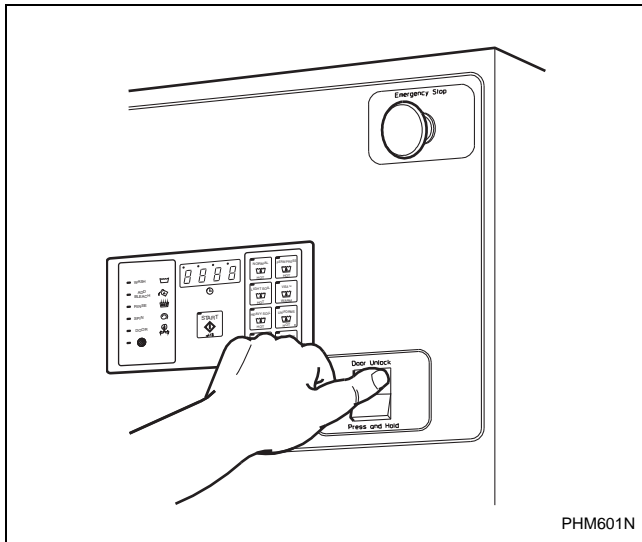

Figure 28
2. Use left hand to press and hold the door unlock button located on the lower right front of the control panel. Refer to *Figure 28*.